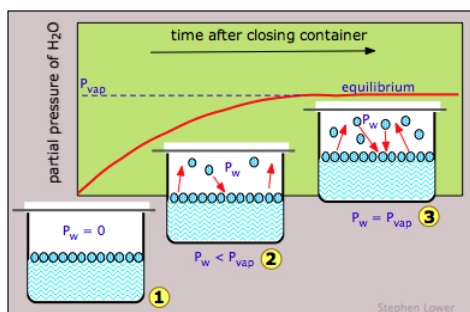

Figure 7.5.3:
If we do this for water (Figure 7.5.3), the partial pressure of water P_w in the vapor space will initially be zero (1). Gradually, P_w will rise as molecules escape from the substance and enter the vapor phase. But at the same time, some of the vapor molecules will "escape" back into the liquid phase (2). But because this latter process is less favorable (at the particular temperature represented here), P_w continues to rise. Eventually a balance is reached between the two processes (3), and P_w eventually stabilizes at a fixed value P_{vap} that depends on the substance and on the temperature and is known as the *equilibrium vapor pressure*, or simply as the "vapor pressure" of the liquid or solid. **The vapor pressure is a direct measure of the escaping tendency of molecules from a condensed state of matter.**